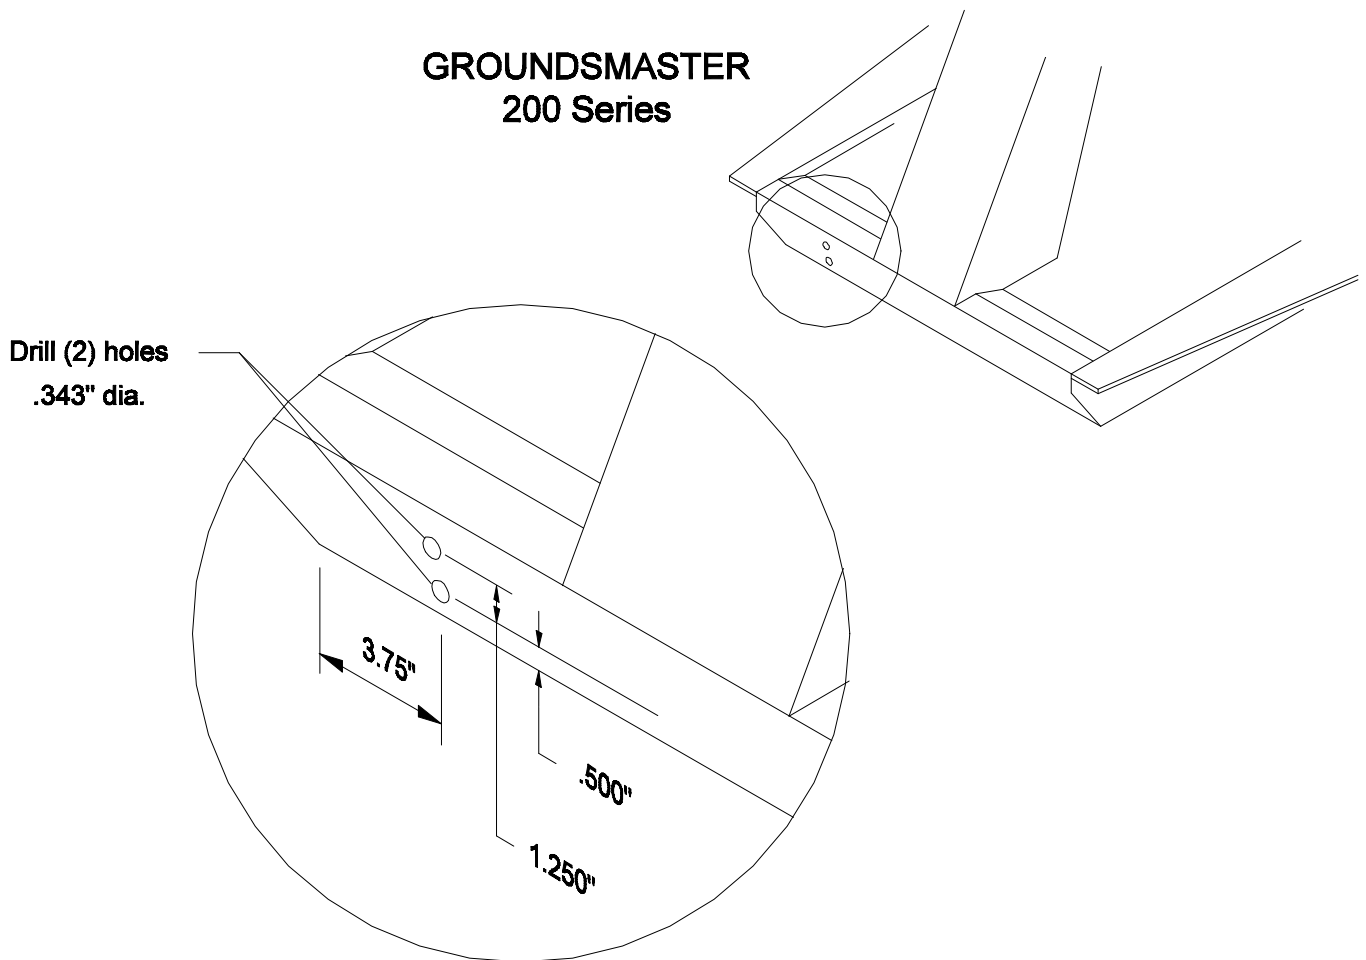

Figure 1
9. Connect the PTO (item #21) to the pulley shaft using a 5/16" x 2-3/4" capscrew (item #22) and two (2) hex nuts (item #23).
10. Attach the stop bracket (item # 4) with two (2) 1/2" x 1-1/2" capscrews (item #5), flat washer (item #6), lock washers (item #7) and hex nuts (item #8).
11. Attach the support bracket (item #10) to the steering column housing. Secure the bottom four holes with 3/8 x 1-1/2" capscrews (item # 18), lock washers (item 17) and flat washers (item #16). Secure the two top side holes with 1/4 x 3/4" capscrews (item #15), lock washer (item #14) and flat washers (item #13).
**NOTE: Refer to page 3, "COUNTER BALANCE", and Fig. 1 during steps 15 thru 17.**
15. Drill two (2) holes in the Groundsmaster using the dimensions shown in Fig. 1.
16. Attach the mounting bracket (item #16) to the front of the Groundsmaster with two (2) 5/16" x 1" hex head flange screws (item #19) and flange lock nuts (item #4).